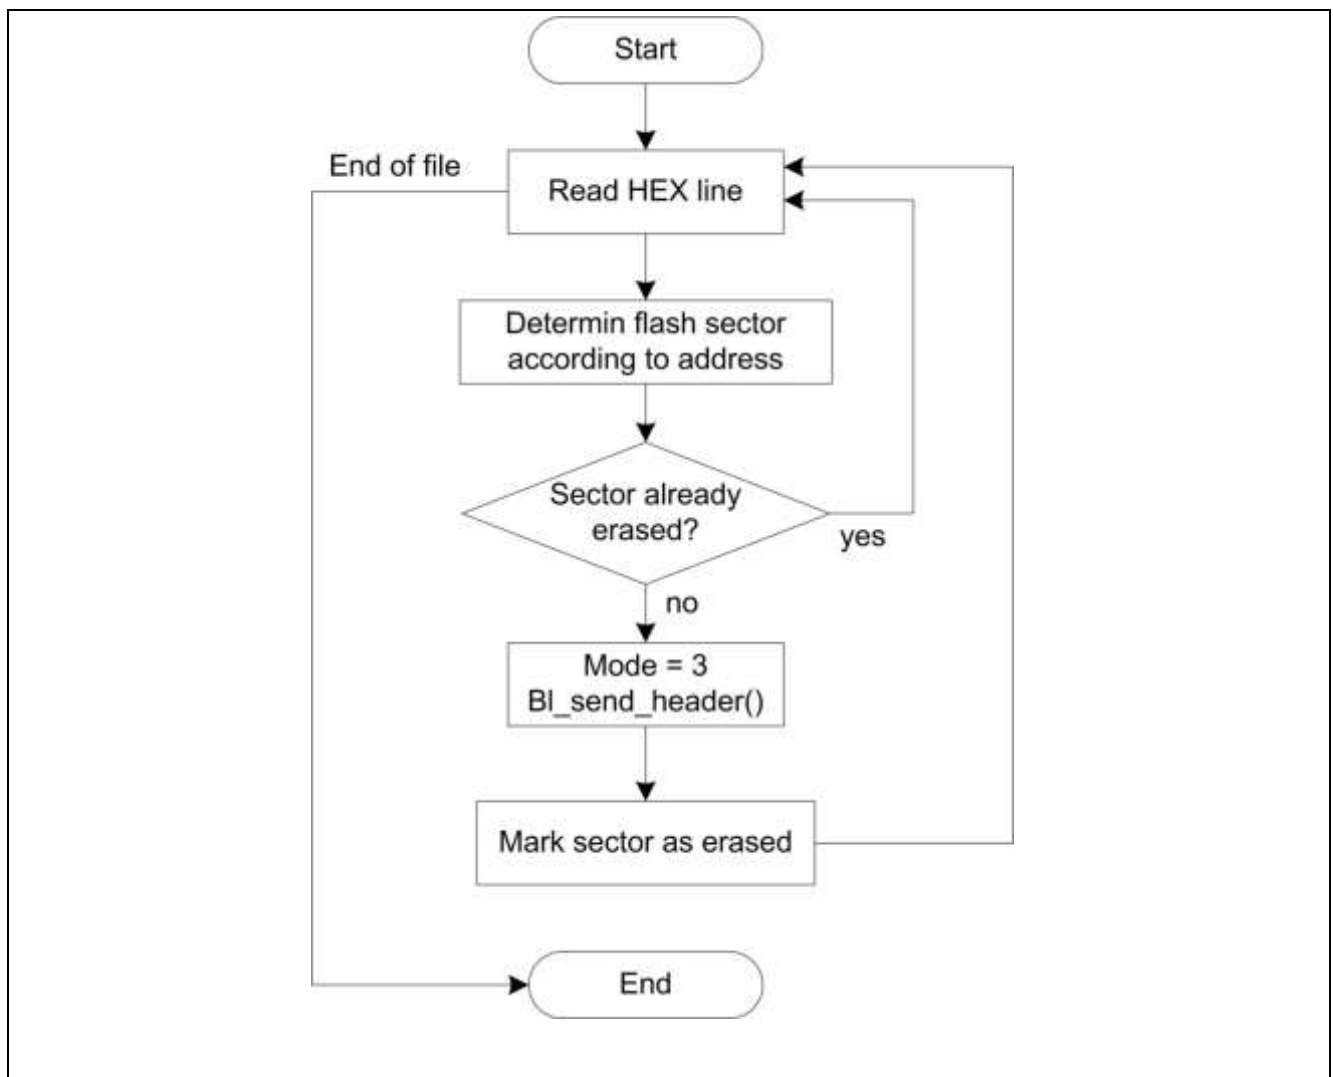

Figure 4 Flash erase procedure implemented in bl_erase_flash()
- The Flash erase procedure, as shown in Figure 4 is implemented in the function `bl_erase_flash()`.